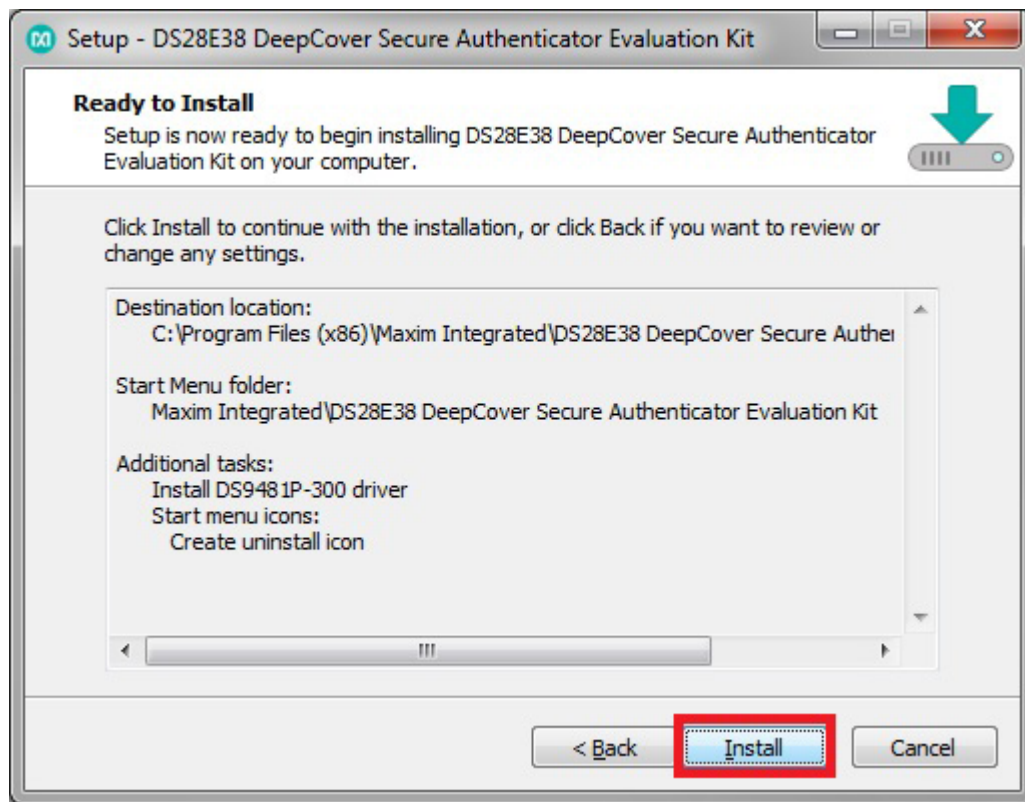

Figure 6. Ready to Instal
7) Next click on **Install**. A new window pops up to show the installing progression (Figure 6).